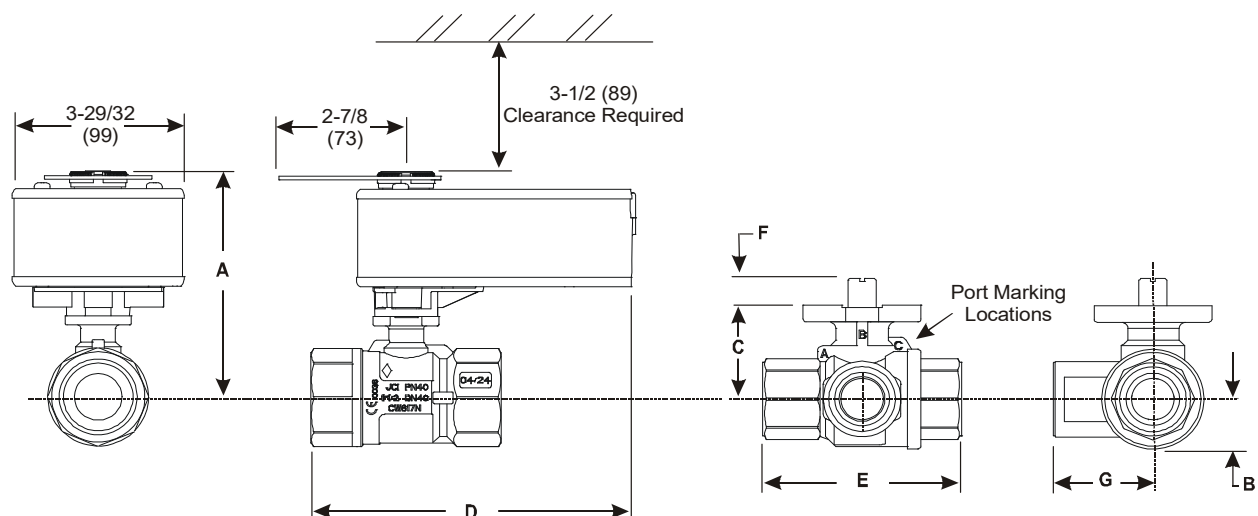

Figure 2: Spring return VA9208 actuated VG1241, VG1245, VG1841, and VG1845 Series Ball Valve dimensions, in. (mm)
See Figure 2 and Table 1 for valve actuator dimensions.
1. Port A must always be connected to the coil (Figure 2).